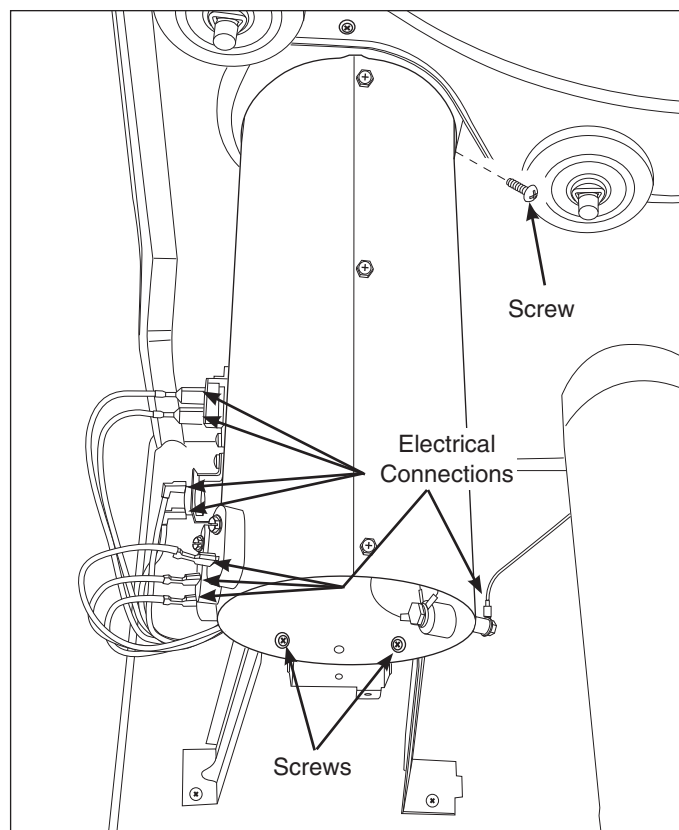

Figure 4-47.
3. Using a #2 square bit screwdriver, extract the two screws at the front of the heater assembly and the single screw at the right rear. (See Figure 4-47)